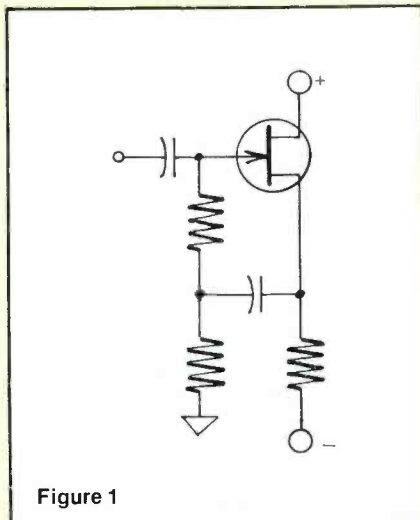

Figure 1
3. The circuit of Figure 1 is called
After introduction in 13-inch Magnavox models in May 1982, the C3 chassis now is used in 13-and 19-inch versions of NAP Consumer Electronic Corporation Magnavox, Philco and Sylvania brands. All circuitry for the C3 is located on one large printed-circuit board, except for the RGB transistors, a black-level bias circuit and the focus control which are located on the picture-tube-socket board (Figure 1).
Figure 1 All components (except tuners) of the NAP C3 are located on one large main circuit board and one smaller board that contains the picture-tube socket and other related components.